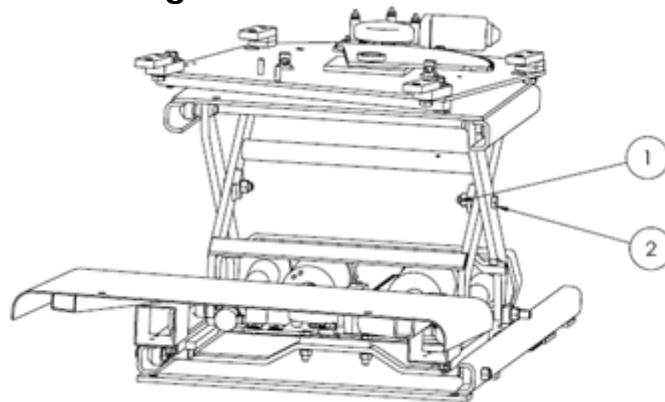

Figure 1.9
- d.) Loosen the locknut (See #1 in Figure 1.9) 1 full turn.
- e.) Loosen the bolt (See #2 in Figure 1.9) enough to see clearance between the bottom of the head of the bolt and the leg.